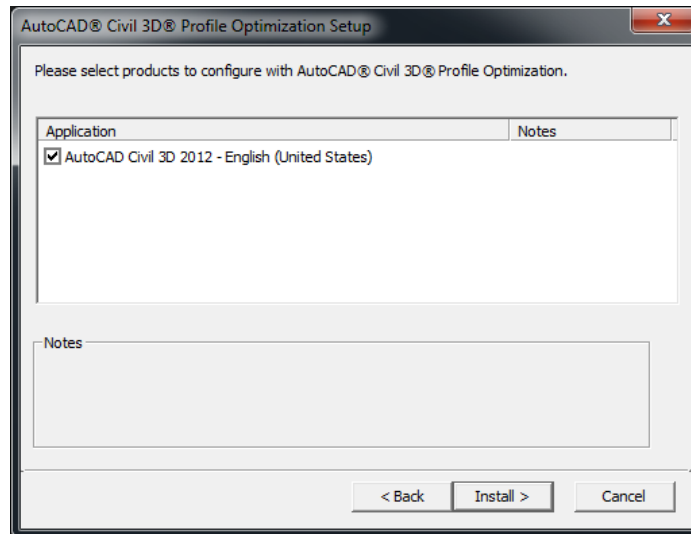

Figure 3: Civil 3D version
4. Select AutoCAD Civil 3D 2012 and click on Install (see Figure 3).